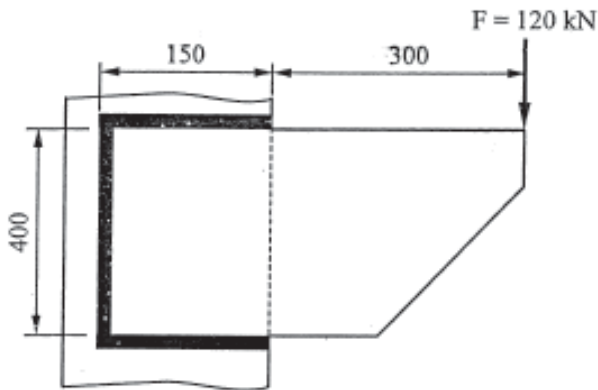

FIGURE 5, QUE. 6a
6. a) Find the suitable size of the weld for a bracket plate carrying a load of 120 kN which is to be welded to a column as shown in Figure 5. Assume allowable shear stress in the weld is 110 MPa.